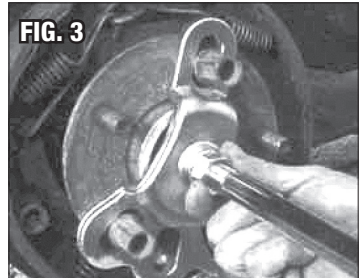

FIG. 4
- Move Slide Hammer inward toward Locknut. **(Fig 4)**.
- Move Slide Hammer inward toward Locknut. (Fig 4).